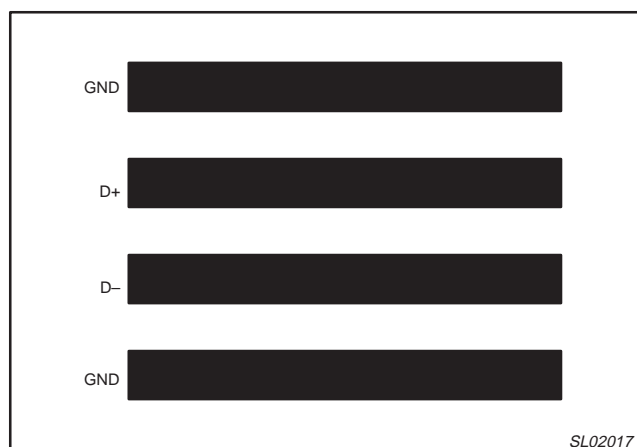

Figure 18. D+ and D- trace layout.
2. Route the D+ and D- lines parallel and close together with ground guards enclosing them (see 'Ideal diode trace layout', Figure 18).